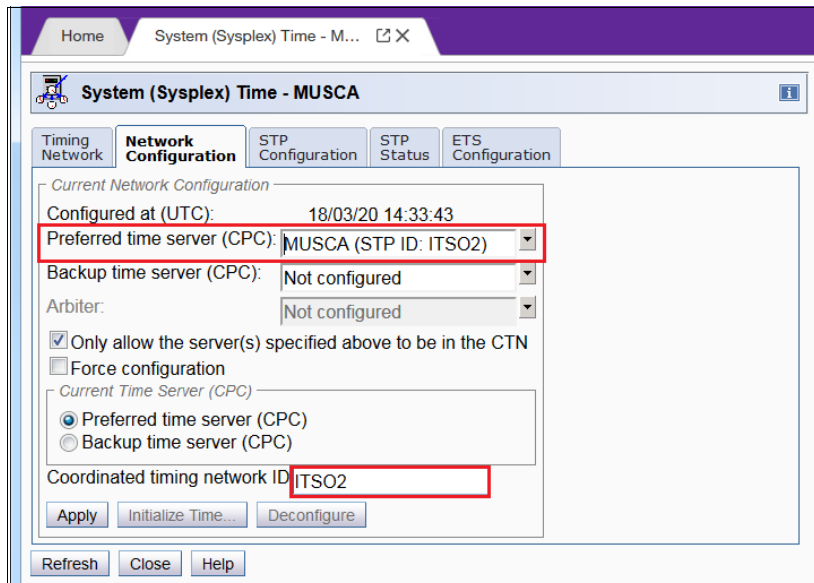

Figure 5-43 System (Sysplex) Time: Network Configuration
16. Click the **Network Configuration** tab to display or set the role for this CPC. In this example, MUSCA is set as the Preferred Time Server (PTS) for the current CTN (see Figure 5-43).